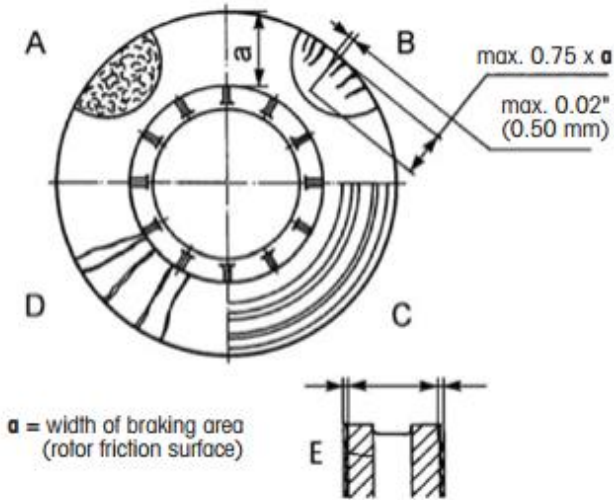

Figure 10: Rotor Condition Analysis
6. Brake rotors for abnormal cracks as shown in figure 10.